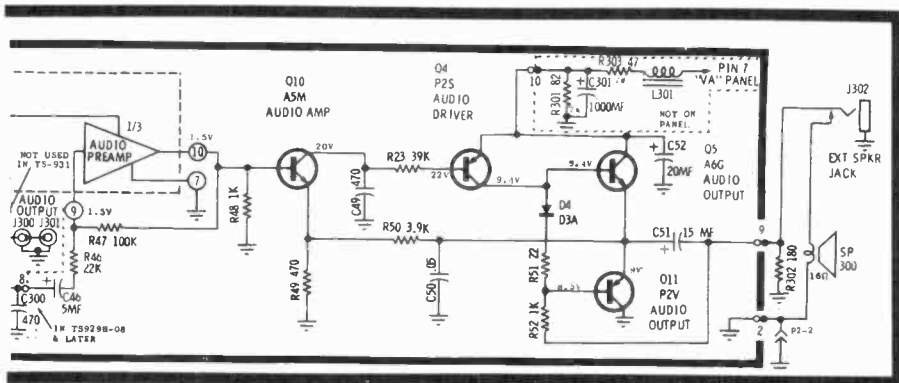

Fig. 6-17. Schematic of Motorola's CTV7-8 audio circuits.
Motorola's CTV7-8 audio subsystem (Fig. 6-17) uses an IC and a push-pull capacitor-coupled output. However, the solid-state FM detector does have a quadrature coil like the 6HZ2 tube, and so also is known as a quadrature detector.
On the CTV8 schematic (Fig. 6-17), a quadrature coil and shunting 150-pf capacitor form a tank circuit, the Q of which determines the peak separation of the detected output, noise characteristics, and output voltage swing of the detector. Since this is a quadrature system, the tuned circuit will lag the incoming carrier by precisely 90 degrees. The output, through the emitter follower transistor to pin 2, is twice the input through pin 13, the initial emitter-follower and the 1K limiting resistor. The time constant of the 10K resistor in the right differential amplifier and the 0.015-mfd capacitor (normally the de-emphasis network) shunts the twice multiplied incoming frequency and any noise pulses to ground. Higher frequencies result in a greater phase lag and lower frequencies produce a smaller phase lag, with maximum output at 0 degrees and-or 180 degrees.
16. What's different about Motorola's output stage in Fig. 6-17?